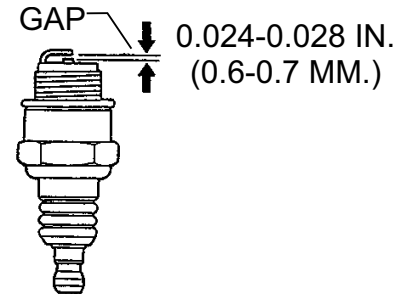

Figure 24. Spark Plug Gap
1. Remove and clean the spark plug (Figure 24), then adjust the spark gap to 0.024 ~0.028 inch (0.6~0.7 mm). This unit has electronic ignition, which requires no adjustments.